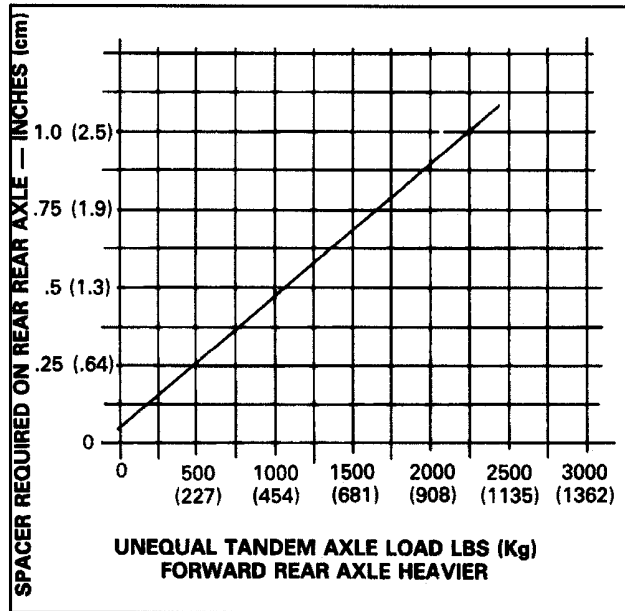
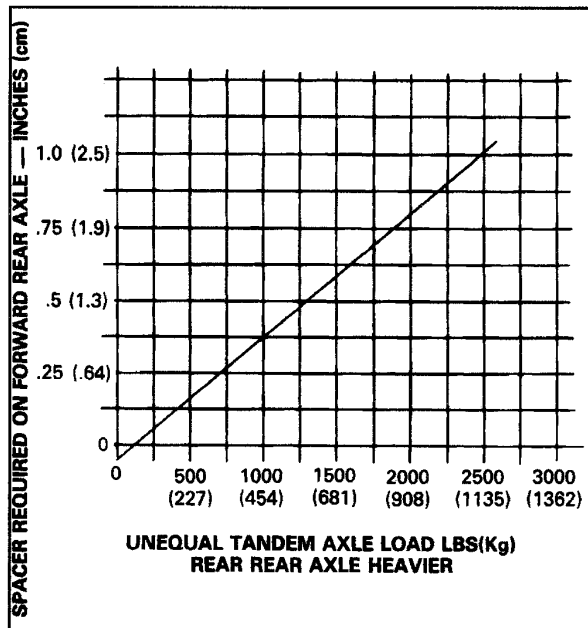

Figure 31 Spacers Required With Heavier Forward Rear Axle
Figure 32 Spacers Required With Heavier Rear Rear Axle
6. Equalize weight differences in (forward and rear) rear axles by installing spacers between the leaf spring assemblies and the axle housings. If the tandem axle can be adjusted to within 500 pounds (1102 kg), it is generally acceptable. Spacers must be installed on both sides of the lighter axle. Use the charts in Figure 31 and Figure 32 to determine the amount of spacers required and at which axle they should be installed.